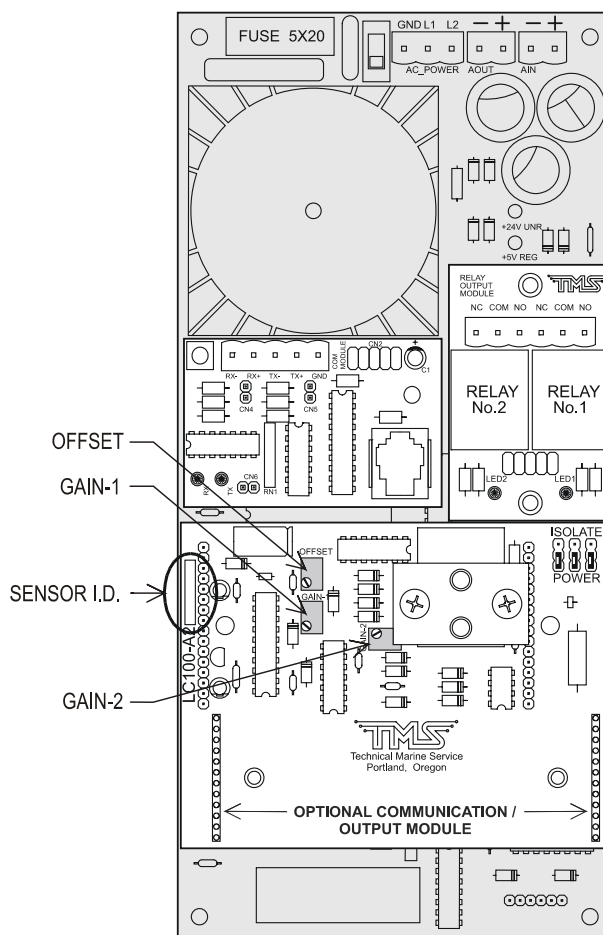

Figure 23 LevelCom 100 Interior
1. Determine the type of pressure sensor installed in the LevelCom 100 by inspecting the white silk-screened area of the Pressure Sensor Circuit Board (Refer to Figure 23 for the location).
5. Adjust the **OFFSET** potentiometer on the pressure sensor circuit board until the display reads 50 if the for a 15 PSI or 30 PSI sensor, or 80 for a 100 PSI sensor (Refer to Figure 23 for the location of the OFFSET potentiometer). Press **ACK** when this step is done and proceed to step 5.
The instrument will now read the applied pressure in inches of water to an accuracy of 0.1". If the reading is different from this value adjust the **GAIN-1** potentiometer until the correct reading shows on the display, agreeing with the reading on the calibration gauge. (Refer to **Figure 23** for the location of the GAIN-1 potentiometer)
11. The LevelCom 100 display should show a number near 3200. Adjust the **GAIN-2** potentiometer until the correct reading of 3200 is on the display. (Refer to **Figure 23** for the location of the GAIN-2 potentiometer)